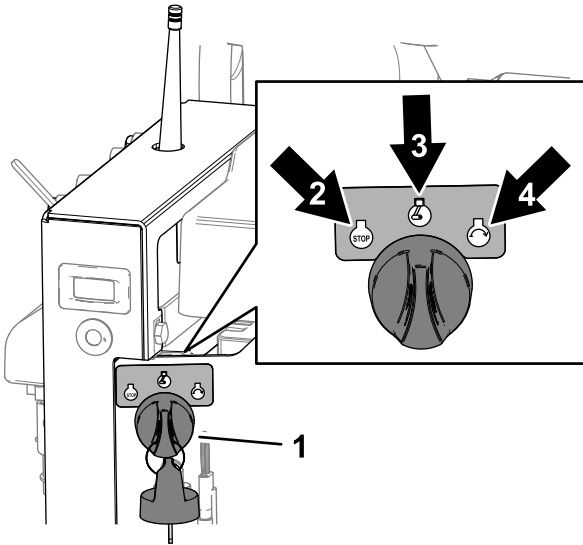

Figure 45
1. Turn the key to the OFF position (Figure 45).